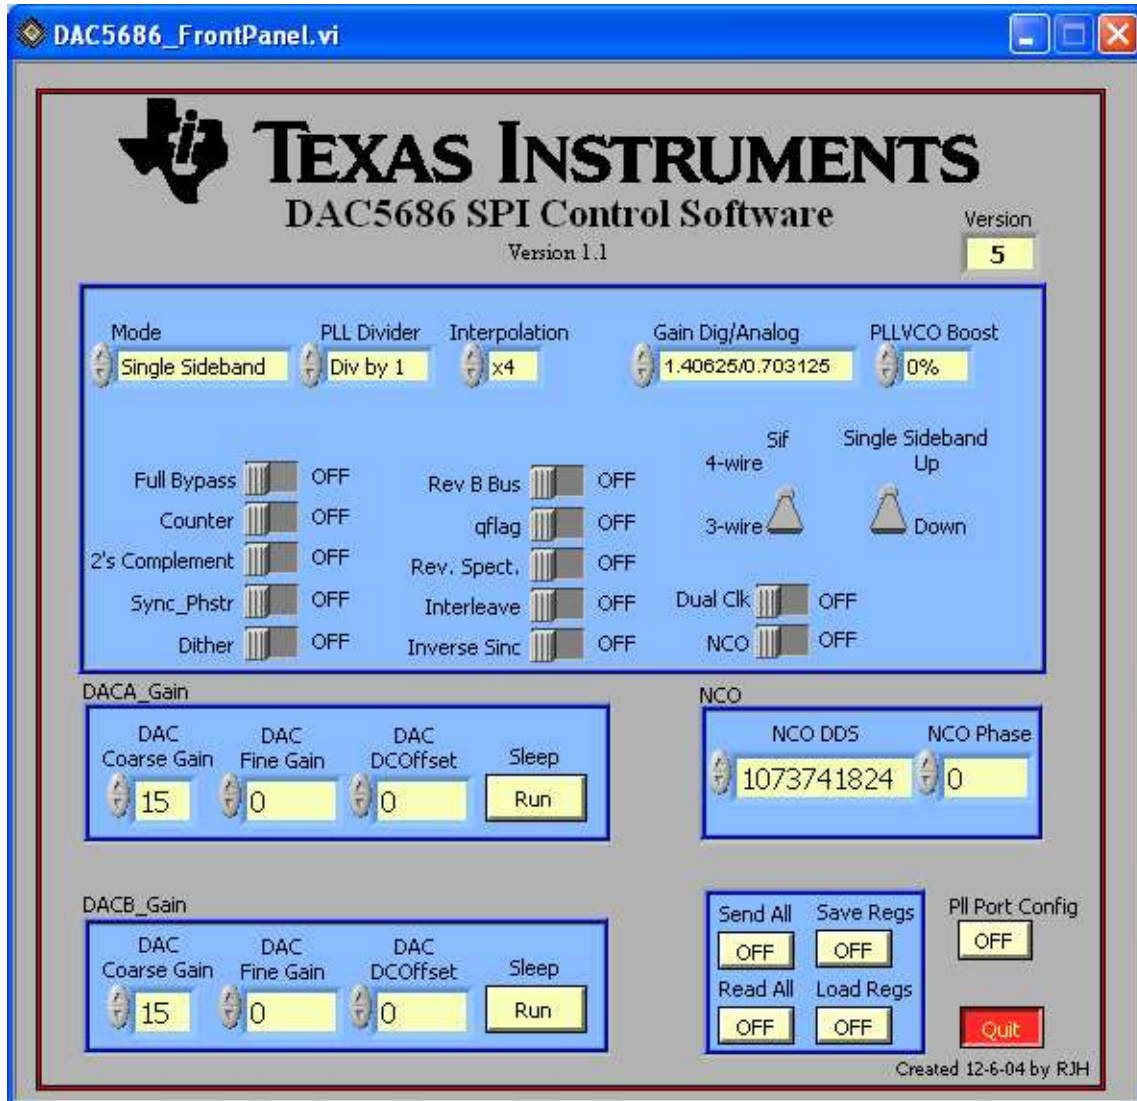

Figure 2. DAC5686 Setup for X4 Interpolation, Single Sideband Mode and Tone at Fdac/4
4. Turn "Full Bypass" off, change Interpolation to "x4", set Mode to "Single Sideband" and the Coarse Gain for both DACs to 15. The GUI should now look as shown in Figure 2.